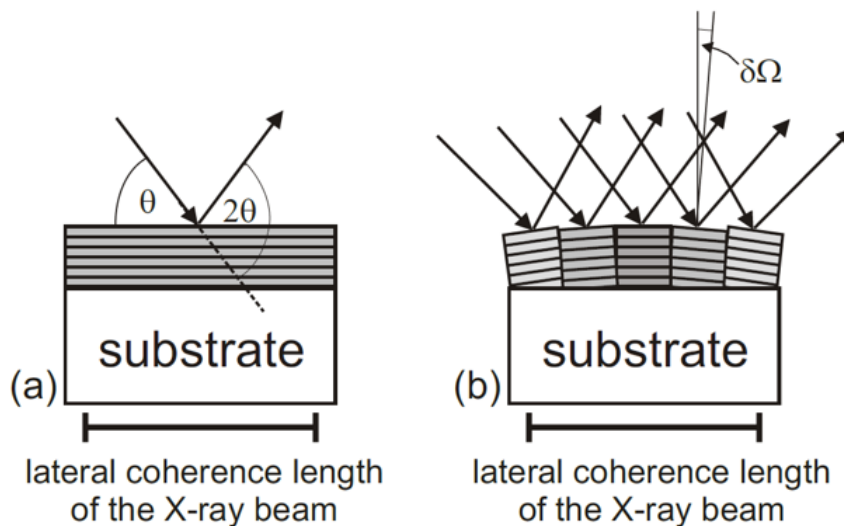

Fig. 2: X-ray diffraction for (a) ideal single crystal and (b) a mosaic crystal or film
2.  $\omega$  scan (also referred to as a transverse scan in reciprocal space): The incident beam arm and detector arm rotate with equal steps in the same direction with  $2\theta$  **fixed** at the Bragg condition. This is also known as a **Rocking Curve (RC)** scan. The  $\Delta\omega$  instrument resolution of this scan is determined from the width of the substrate Bragg peak RC. The film's RC width has contributions from the mosaic spread and in-plane domain size. A mosaic crystal or a film is built up by many crystallites (grains) with different tilt angles ( $\delta\Omega$ ). This is shown in **Fig. 2**. According to  $\delta\Omega$  the crystallites can group in ensembles for which Bragg equation will be fulfilled. The rocking curve measurement is commonly used as a figure of merit to evaluate the mosaicity of a thin epitaxial film. The smaller the width of the peak, the better the individual crystallites are aligned and the larger their size.